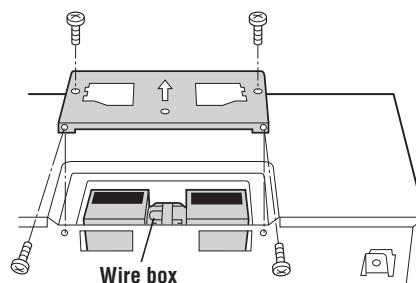

Figure 16
5. Attach the Fan Cover Bracket to unit with the 4 screws removed in step 1 above. See Figure 16. The Hood Fan Unit is now rotated for vertical exhaust operation.